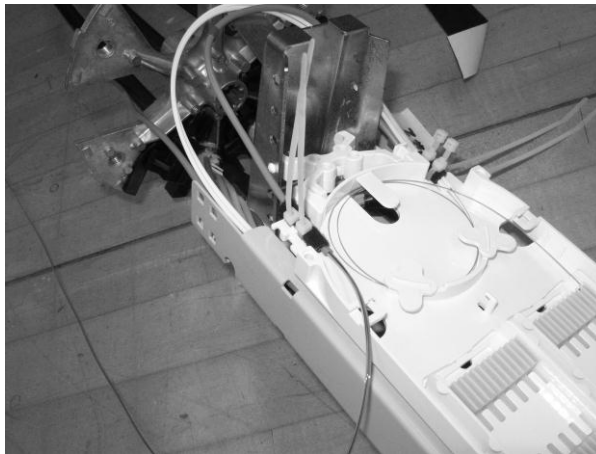

Figure 25 – Fasten the buffer tubes to the splice tray.
5.14 Wrap the ends of the buffer tubes with felt tape and fasten them to the splice tray using the small cable ties as shown in Figure 25.